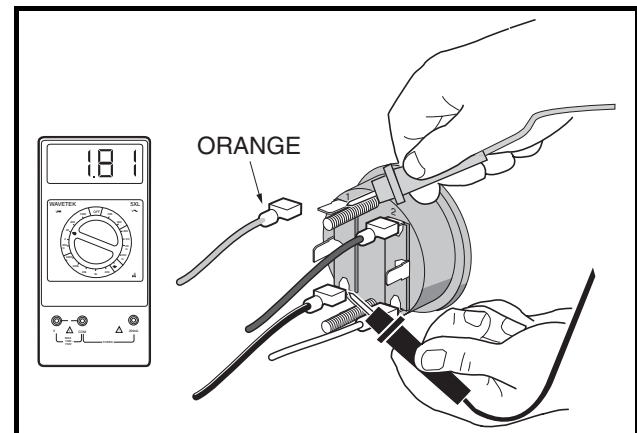

Figure 11-38 Test Fuel Gauge Voltage
9. The orange wire should remain disconnected for this step. With the black probe still on the (3) terminal of the fuel gauge/hour meter, place the red (+) probe of the multimeter on the (1) terminal of the fuel gauge/hour meter (**Figure 11-38, Page 11-34**). The voltage reading should be approximately 1.81 volts. If the reading is incorrect, replace fuel gauge/hour meter.